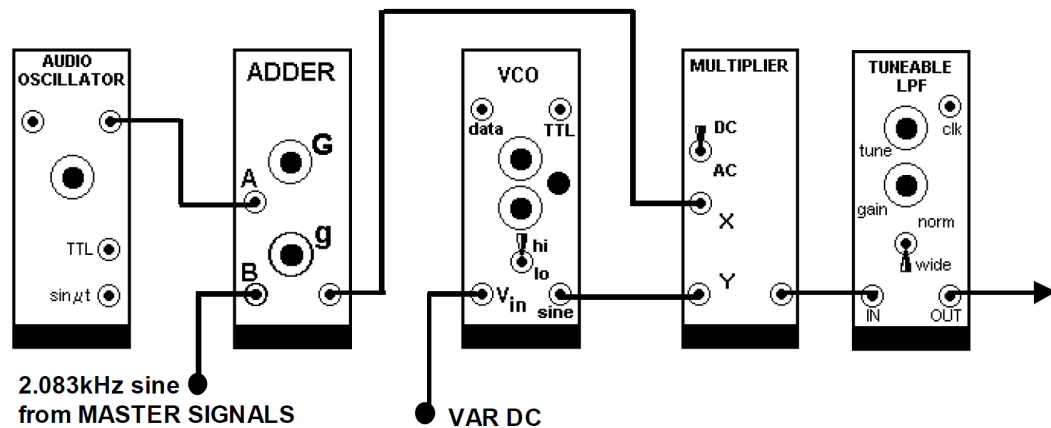

Figure 4: Task 3 - Wave Analyzer
1. BEFORE patching up the diagram in Figure 4, set the AUDIO OSCILLATOR output frequency to 5 kHz. Connect its output to socket A of the ADDER, and vary the corresponding knob 'G' to obtain a signal of 1.5 Vp-p. Keep this knob unchanged. Now, disconnect socket A, and connect a signal of 2.083kHz from MASTER SIGNALS to socket B of the ADDER. Vary the knob 'g' to obtain a signal of 1 Vp-p. Do not change these two knob until you finish this part. Now reconnect socket A, from the AUDIO OSCILLATOR. Briefly display the signal at the output of ADDER. [Marks: 1]
2. Patch up the TIMS model in Figure 4. On the VCO, set the switch to the LO position. Set the GAIN control to 10 o'clock. On the VARIABLE DC module, set the control to 12 o'clock. Set the switch on TUNEABLE LPF to NORM, the TUNE control near 9 o'clock, GAIN near 12 o'clock. Connect the VCO output to oscilloscope Channel X and the LPF output to Channel Y.